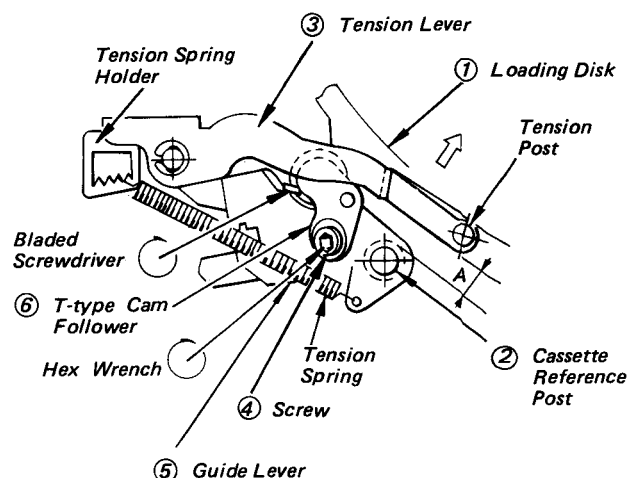

Fig. 5-87 Tension Lever Position Adjustment at Unloading End
28-1. Checking and Adjusting the Tension Lever Position at the Unloading End (Fig. 5-87)
2. Press the EJECT button to set the loading disk ① in the unloading state.
3. Make certain that the clearance A between the cassette reference post ② and tension lever ③ is 5.5 to 7 mm (see Fig. 5-87).